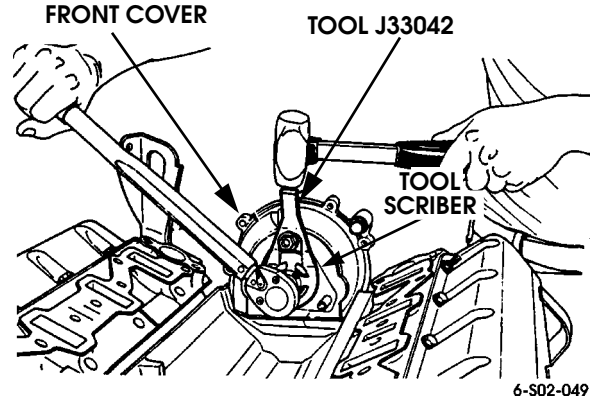

Figure 2-193: Stamping Timing (TDC) Mark on Front Cover
- d. Mount static timing fixture J33042 in the injection pump location in front cover (Figure 2-193). Do not use gasket.
- f. Tighten large bolt on tool in clockwise direction (while facing front of engine), to 35 lb-ft (48 N•m) torque (Figure 2-193).